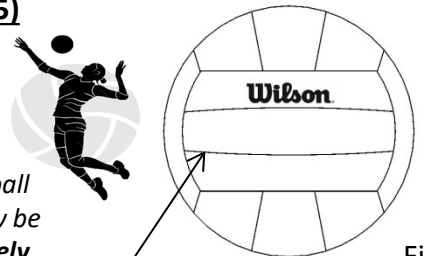
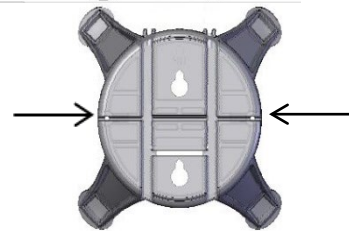
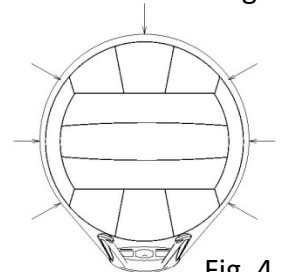

Fig. 1
Fig. 3
Fig. 4
### Hanging a VOLLEYBALL (full size regulation) – – see Fig. 1.
*\*\*\* This mounting feature is to be used when you want to display a volleyball on the wall or ceiling – NOTE: There are multiple positions a volleyball may be mounted with the INVISI-ball Wall Mount in order to partially, but effectively mask the mounting band since the seams noted for mounting the ball do NOT fully encircle the volleyball – see Fig. 1 as an example\*\*\**
**Step 7:** Locate "C-Band" cable (clear) and place the band in the horizontal slot of the INVISI-ball Wall Mount bracket (Fig. 3) – Guide the "C-Band" around the volleyball at the desired location and INVISI-ball Wall Mount bracket as shown (Fig. 4). Locate the "C-Band" in the seam noted in Fig.1 - "\*\*\*\*" as this location will place the band in a seam of the volleyball that will provide more "up-lift" on the ball when it is mounted.